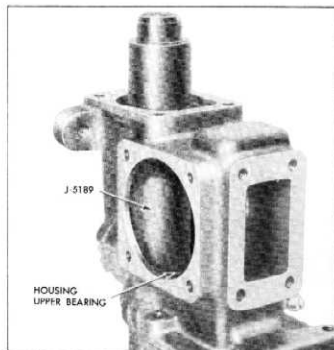

Fig. 40—Installing Housing Roller Bearing
3. If the bearing is removed, use "Bearing" end of tool J-5189 to install new bearing against the shoulder in housing (fig. 40).